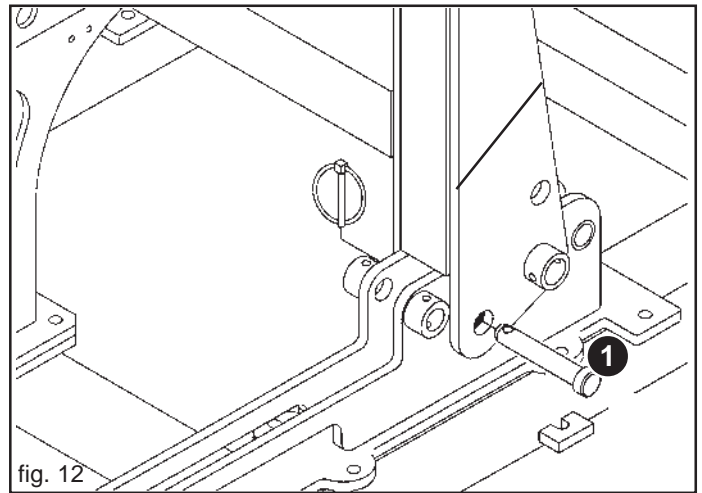

fig. 12
- Remove the safety pin (1, Fig. 12)